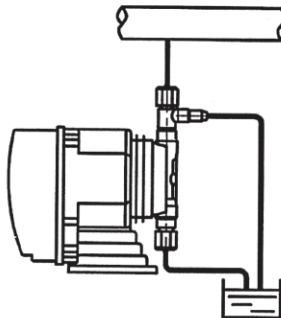

FIGURE 2
- B) The location of the pump is higher than the liquid level of the tank, but lower than the injection part. For this location, the height between the pump head and the liquid level should be shorter than 6.5 ft (2 meters) which is the suction height of the pump. If the height is greater 6.5 ft (2 meters), the pump will not work properly. The pump should always be installed as close as possible to the liquid level of the tank. If the standard tube is not used, the thin tube should be used. This is good for the first start of the pump. (Figure 2).